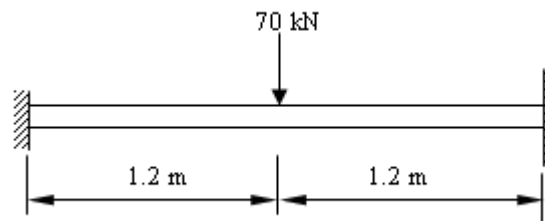

Figure 2:
- (b) Determine the deflection and slope under the point load for the beam shown in figure 2. $E = 180\text{GPa}$; $I = 2 \times 10^{-6} \text{ m}^4$. [8+8]